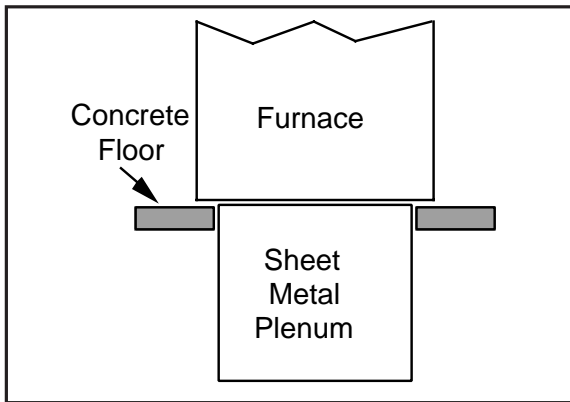

Figure 4. Furnace on a Concrete Slab
2. Place the plenum and the furnace as shown in Figure 4.